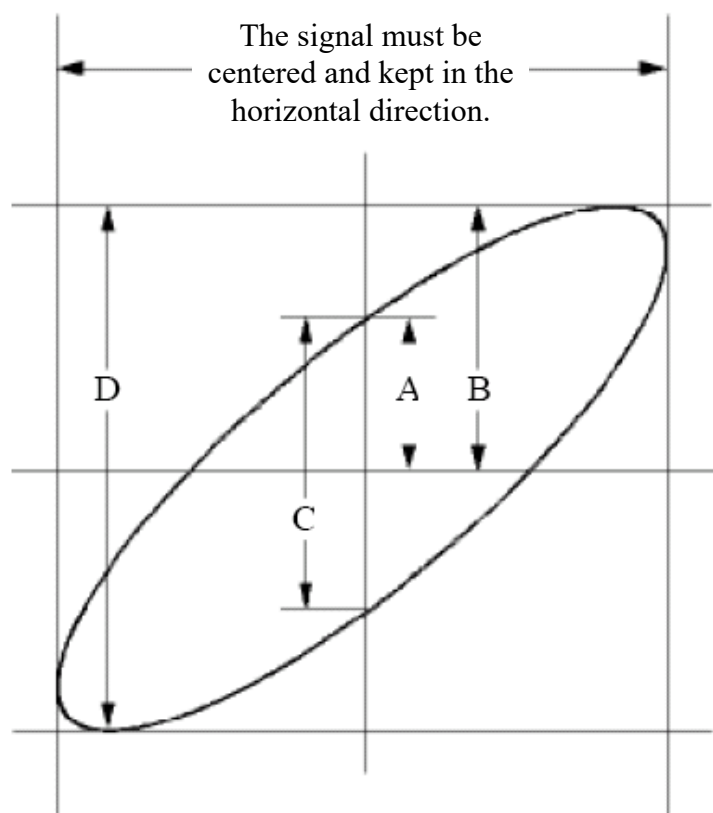

Figure 9-6 Lissajous Graph
- (8) Turn the **Vertical Scale** and **Vertical Position** controls, optimizing the waveform.
- (9) With the elliptical oscillogram method adopted, observe and calculate the phase difference (see *Figure 9-6*).